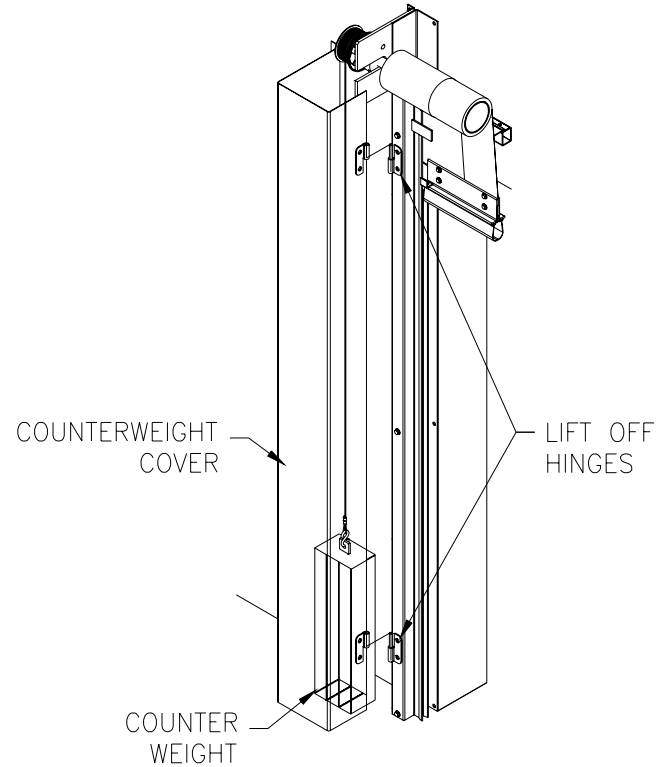

FIG. 10
- a. **Position the Counterweight Cover on the floor** (Figure 10).